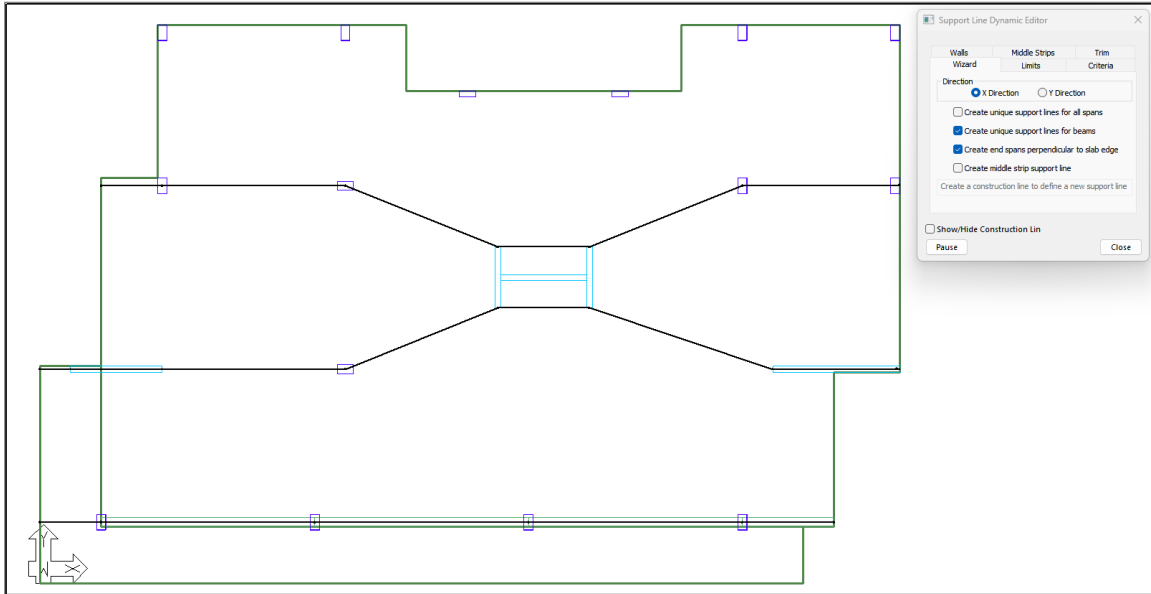

FIGURE 9-12
- Enter the third support line in the same fashion. Once it is entered the users screen will appear like the screen shown in **FIGURE 9-12**.